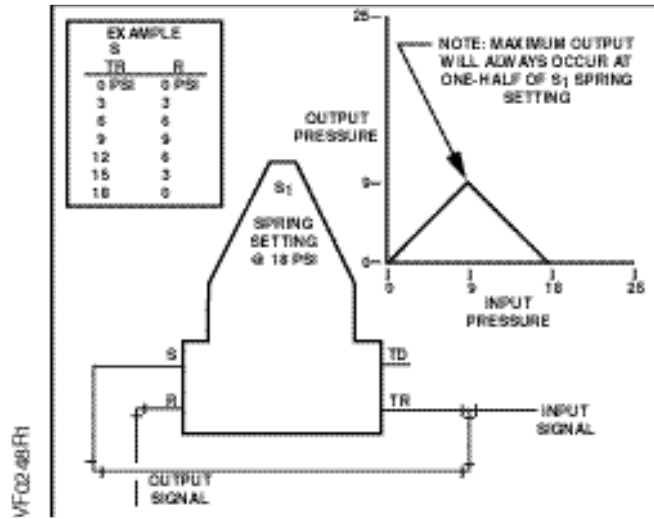

Figure 9. Signal Inverting Relay.
- Signal inverting relay (See Figure 9).
Input signal will pass directly to relay output until maximum output pressure is reached (1/2 of spring setting). A further rise in input pressure will reduce output by an equal amount (Figure 9).